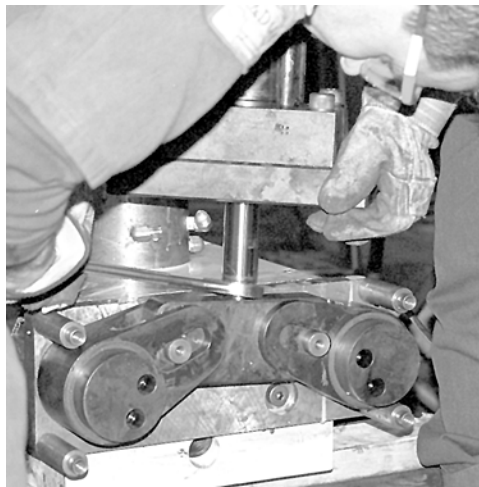

Figure 5-47. Installation/Removal of Lock Bar Actuator to/from Locking Lever Plate
15. Lift the lock bar actuator and mounting bracket. Unscrew the actuator shaft from the locking lever plate (12) (see Figure 5-47).
3. Screw the lock bar actuator shaft (14) to the locking lever plate (12) (see Figure 5-47 on page 5-58).